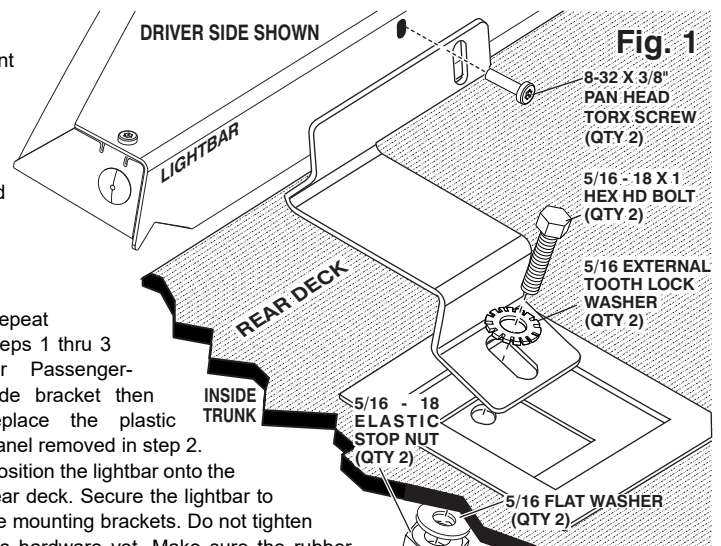

Fig. 1
4. Locate the driver-side lightbar mounting bracket included with the mounting kit. Secure the mounting bracket onto the strap holder using the hardware shown (Fig. 1). Tighten the hardware firmly.